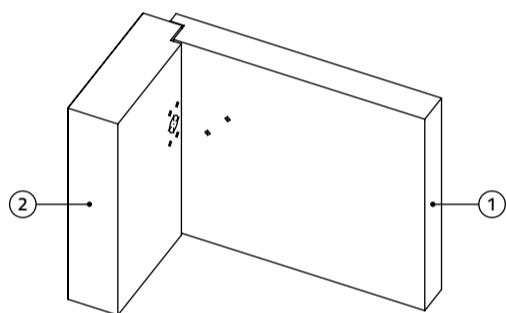
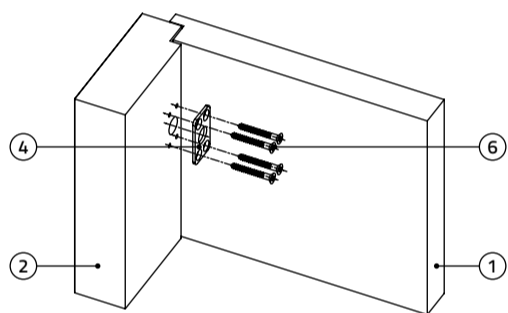

Figure 3
Figure 4
marking - see Figure 3 herein. For M8 bolts (8), drill two ϕ 8.5 mm holes to the door (gate) leaf (1), according to the marking - see Figure 3 in the Installation instructions for one-leaf gate (gate door) with side metal posts. Place the locking hole stiffener (4) to the doorcase (2) and fasten it by means of four screws, ϕ 6 mm and length 50 mm, (6) provided. See Figure 4.